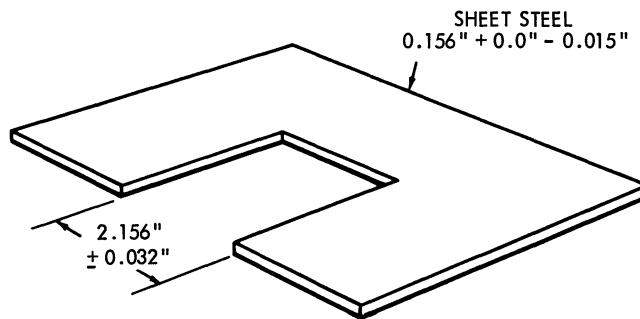

Figure 3-5 Feeler Gage, Typical
1. Construct a steel test gage as shown in Figure 3-5. (This gage should be constructed in advance of requirements and retained for use in routine checking of fuzes.)